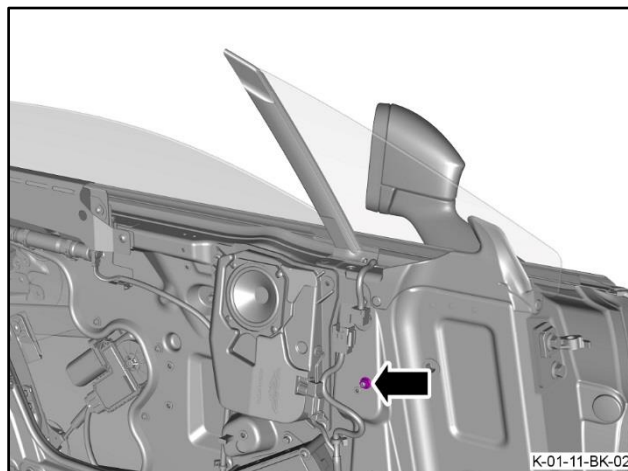

Figure 43
33. Torque the nut that attaches the division bar and quarter glass assembly to the door to 9 Nm (refer to Figure 43).